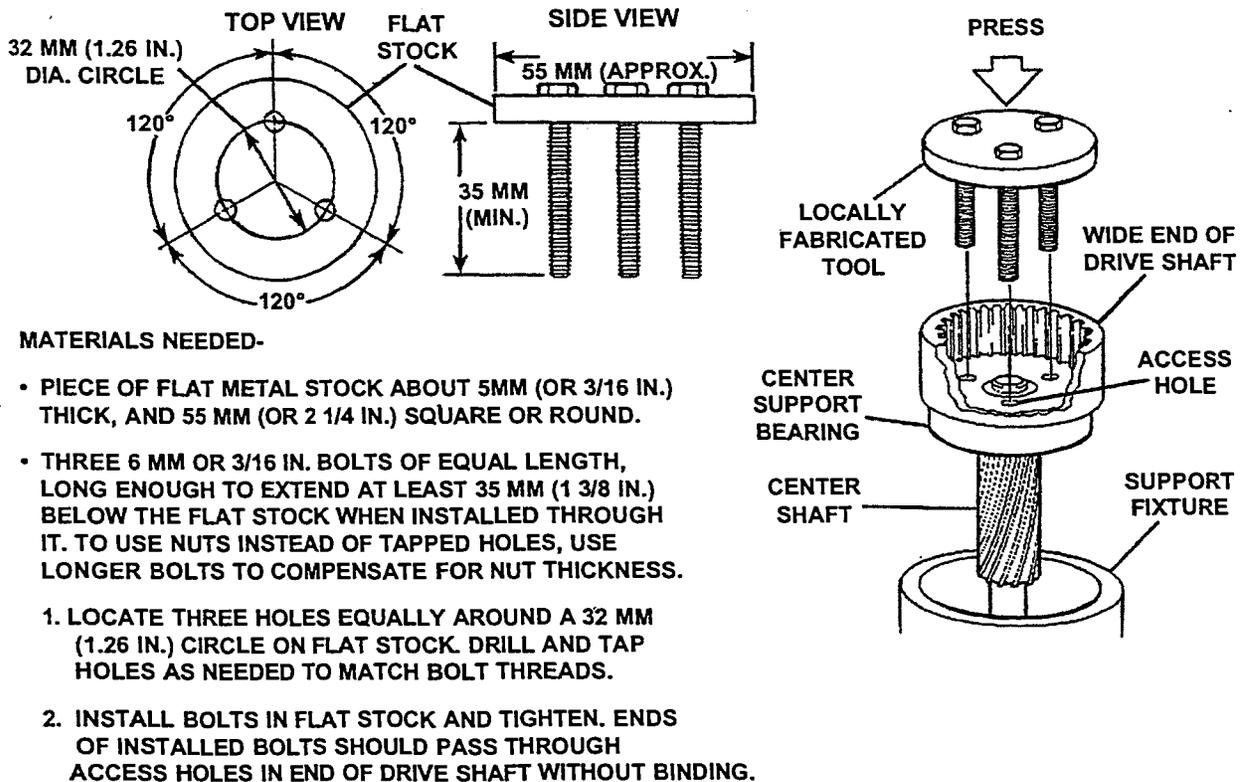

FIGURE 11. TOOL FOR REMOVING CENTER SUPPORT BEARING
- The center support bearing (10) from the drive shaft (15) using a locally fabricated tool as shown in Figure 11.
- The center support bearing (10) from the drive shaft (15) using a locally fabricated tool (Figure 11). With the drive shaft in a suitable support fixture, place the tool bolt ends through the access holes in the wide end of the drive shaft and squarely press the bearing off of the surface on the center shaft.